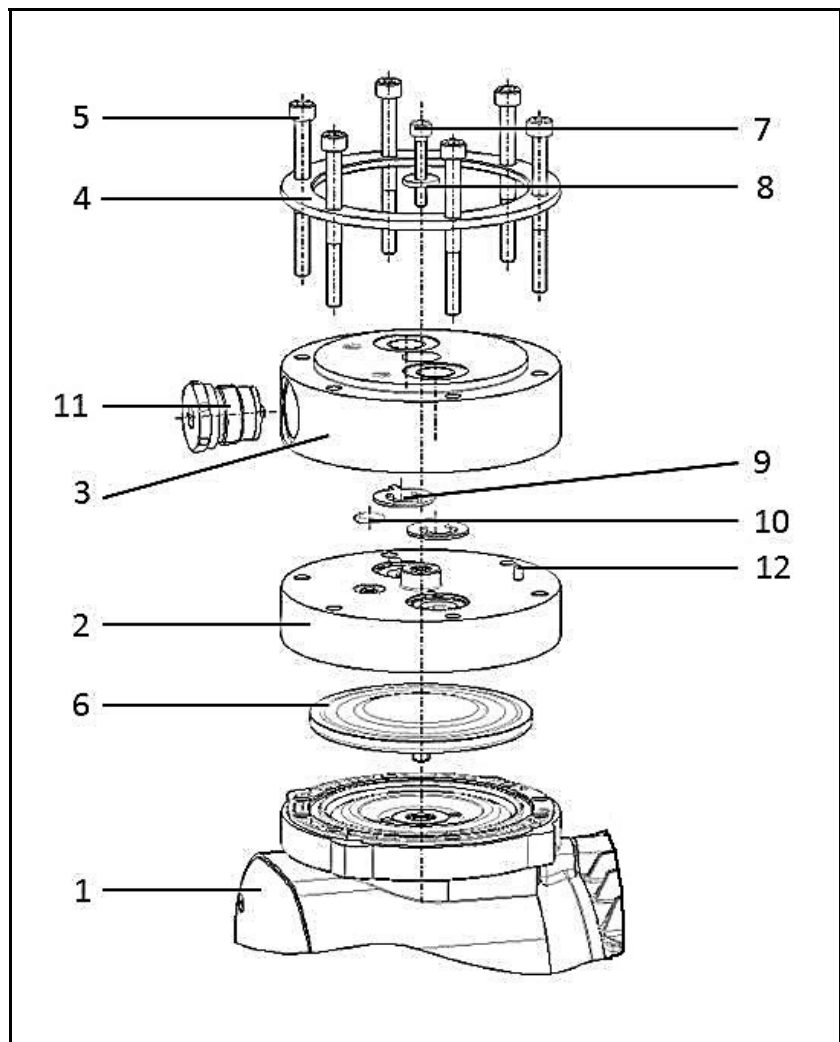

Fig. 10: Pump parts N 922 FT.29E
** According to Fig. 10.
i The position numbers in the following text refer to Fig. 10.
i The position letters in the following text refer to Fig. 10.